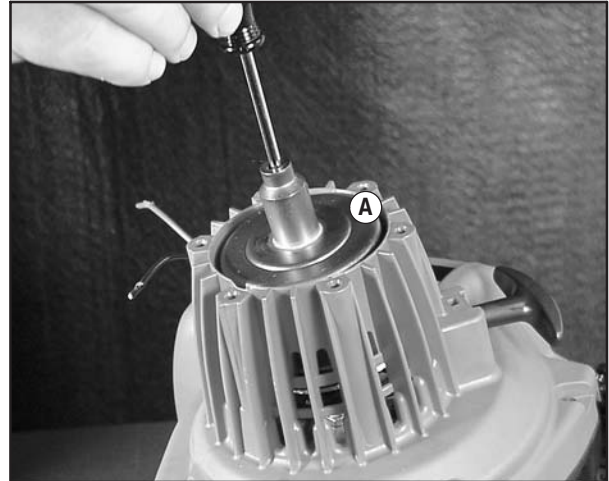

Fig. 5
2. Remove clutch drum (A) using T 15 bit from Briggs & Stratton Tool #19442 Torqux Star Bit Set, Fig. 5.